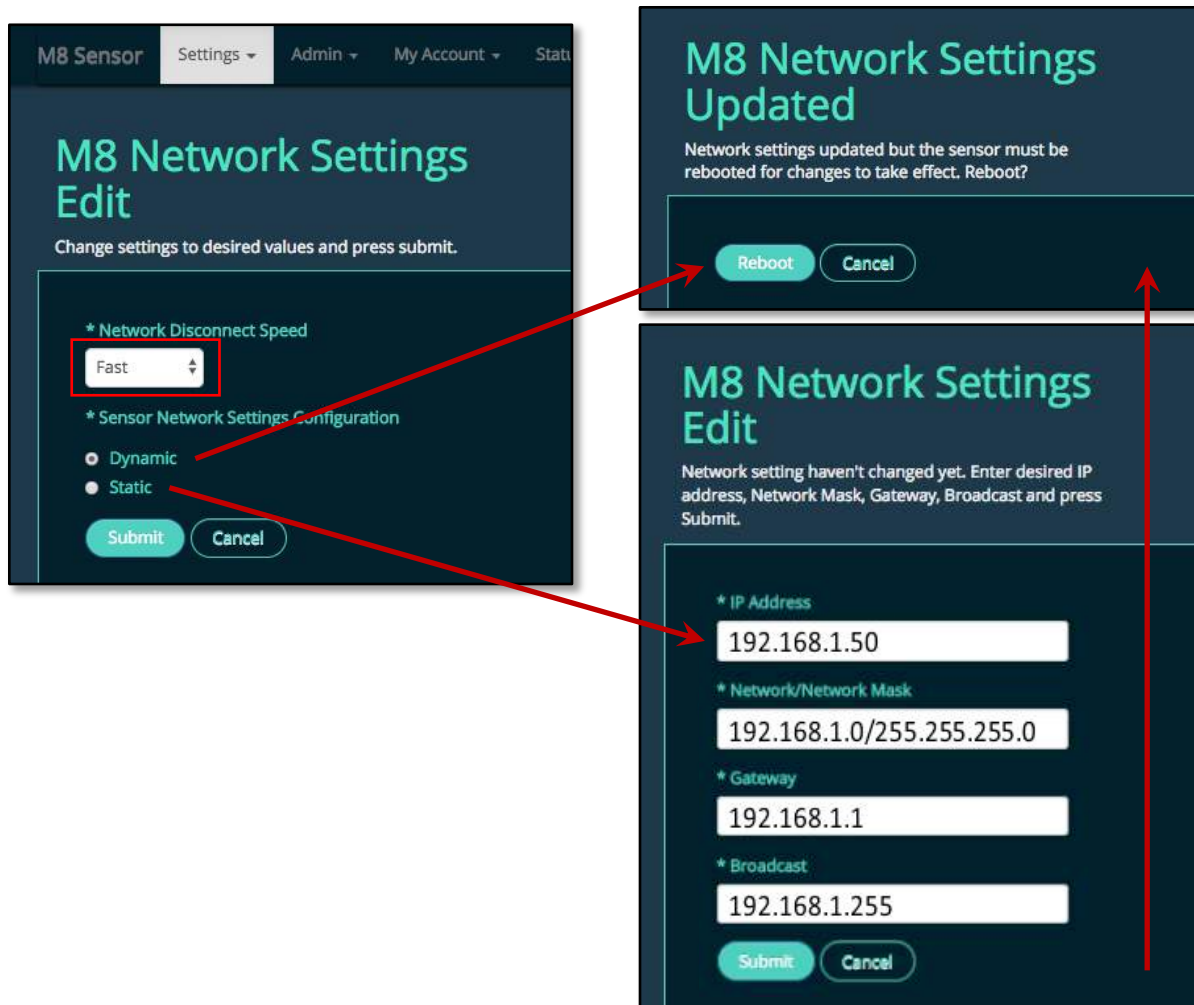

Figure 32. Web Server: Settings Tab's Network Settings (left), Static IP (bottom), Reboot (top)
1. Select the Settings tab's *Edit Network* item to open the *M8 Network Settings Edit* page (Figure 32).
- ...remained *Static* or changed to *Static*, the web server displays fields where you can update or populate values within the network range. Figure 32 (bottom) displays example values that are probably different from those on your actual network.
5. Click the *Reboot* (or *Cancel*) button as shown in Figure 32 (top right). The sensor reboots and the browser redirects to the M8 Sensor home page (Figure 27). Because the sensor may take 40 seconds to reboot, the home page may not be useable until the sensor is back online.